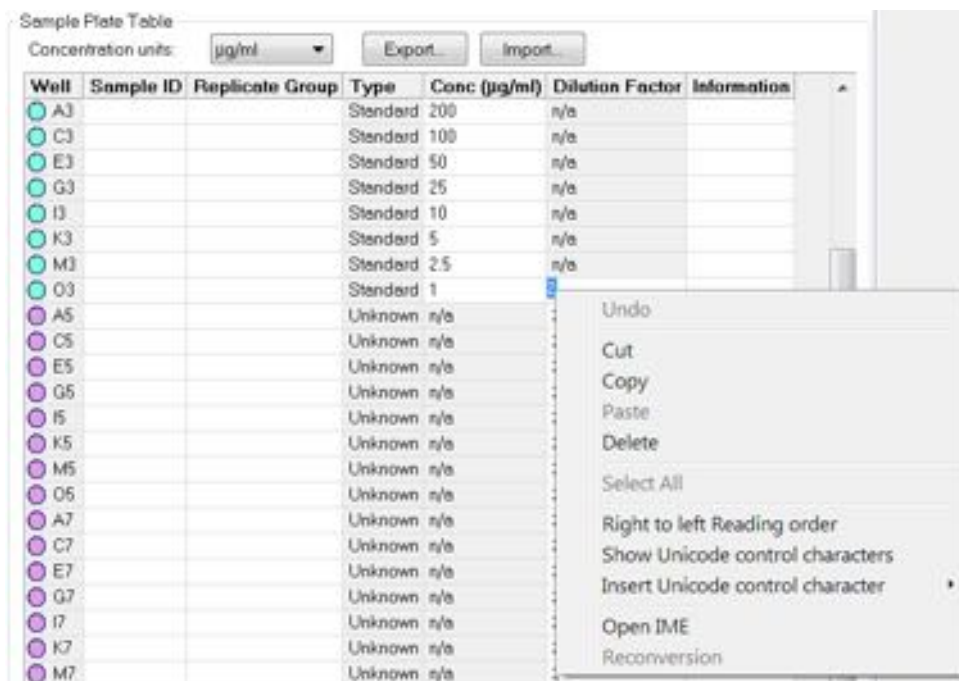

Figure 7-22: Sample Plate Table—Shortcut Menu of Edit Commands
1. In the **Sample Plate Table** (see Figure 7-22), double-click a cell in the **Dilution Factor** column for the desired unknown.
The wells are marked in the **Sample Plate Map** and the **Sample Plate Table** is updated (see Figure 7-22).